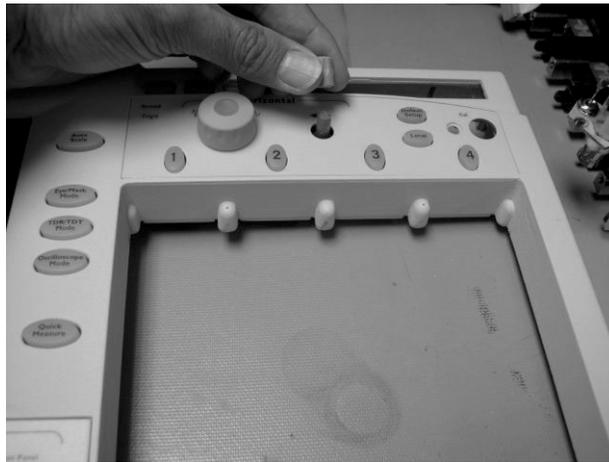

Figure 4-23. Removing the Knobs
- 3 Pull off all knobs, as shown in Figure 4-23.